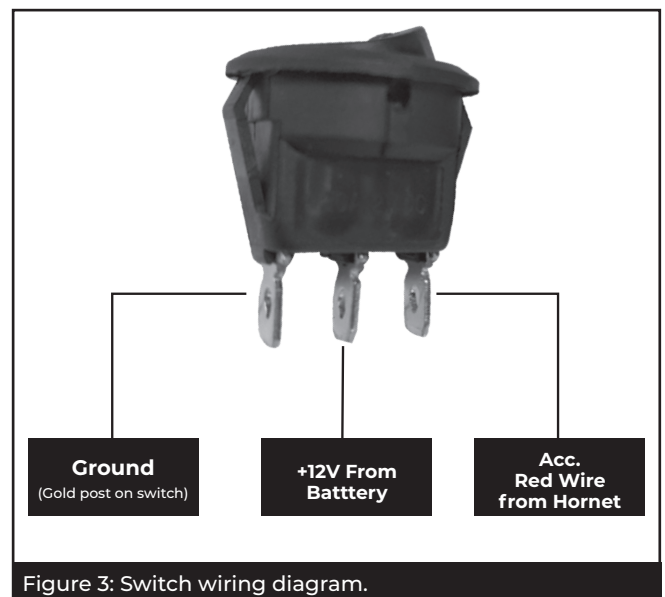

Figure 3: Switch wiring diagram.
- 6** To wire the switches properly, refer to the wiring diagram in **Figure 3**.